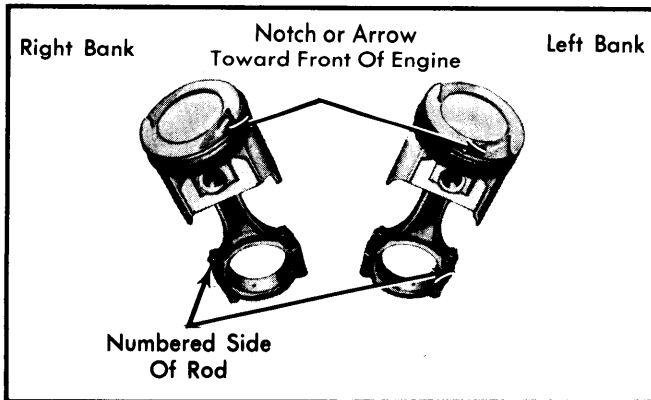

Fig. 8 Piston and Connecting Rod Index Mark Locations
2) Install each piston and rod assembly (with notch on piston head facing front of engine) in its respective bore. See Fig. 8. Guide connecting rod onto crankshaft journal while tapping piston head with wooden hammer handle to seat connecting rod against crankshaft. Install rod caps and tighten. Check bearing clearance and connecting rod side clearance.